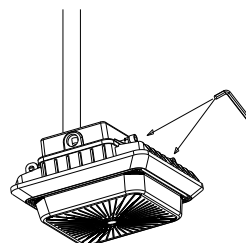

Figure 1-7
- 7.Lock the two cap screws, the product is installed.Figure 1-7